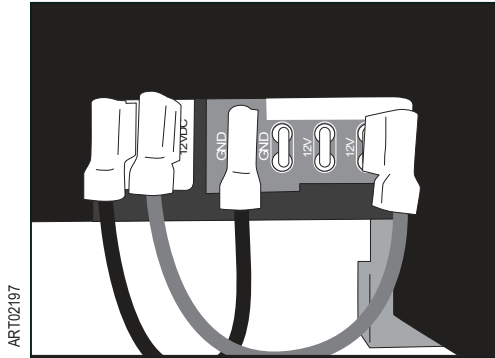

Fig. 16 3-way assembly
- Connect the other end of the black wire to the first terminal from the left of the DC board marked GND. Refer to Fig. 16.
- Connect the other end of the red wire to the fourth terminal from the left of the DC board marked 12V. Refer to Fig. 16.